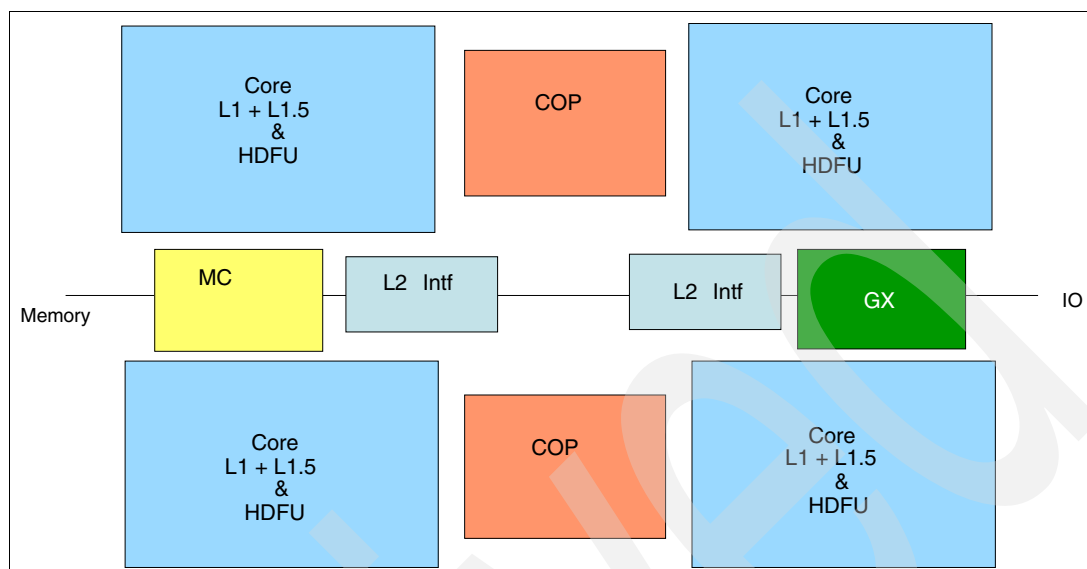

Figure 3-2 PU chip
Each microprocessor (PU) has its own 192 KB cache Level 1 (L1), split into 128 KB for data (D-cache) and 64 KB for instructions (I-cache). The L1 cache is designed as a store-through cache, meaning that altered data is also stored to the next level of memory. See Figure 3-2.